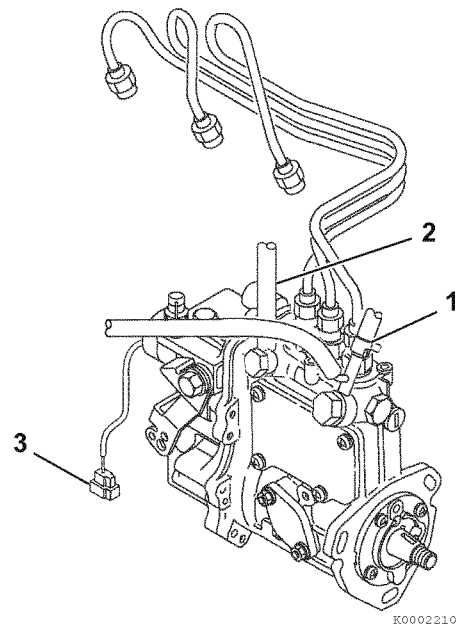

Figure 7-13
7. Disconnect the fuel return lines from the fitting on the fuel injection pump (**Figure 7-13, (1)**). Plug the open ends of the lines to minimize leakage and prevent contamination.
8. Remove the fuel supply line (**Figure 7-13, (2)**) from the fitting on the fuel injection pump.
11. Separate the stop solenoid wiring connector (**Figure 7-13, (3)**).